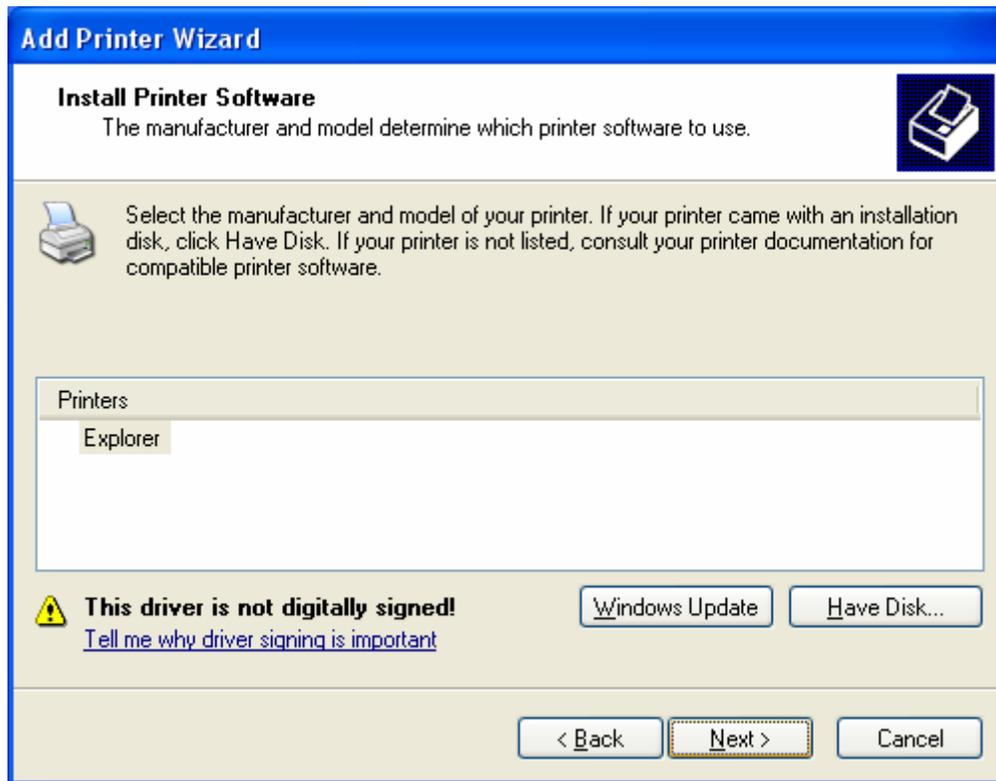

Fig. 4-9 Print Driver Installation
STEP 10: Choose Explorer II to be the default printer and click **NEXT STEP** (see fig. 4-9)